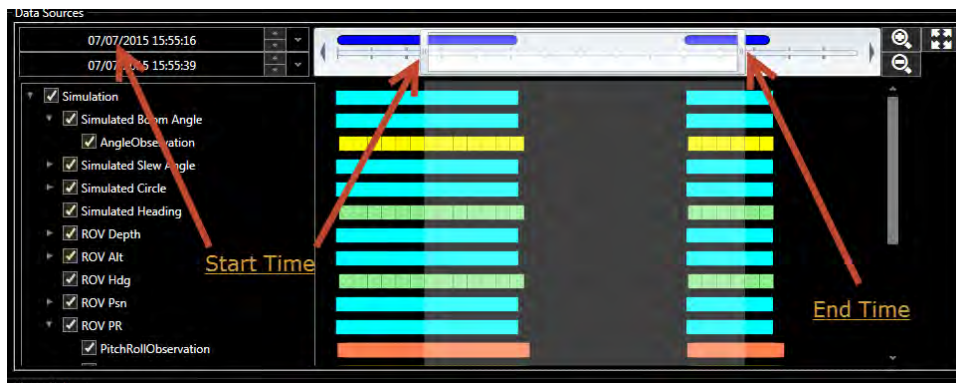

FIGURE 14-18 DATA TIMELINE
- **Data Timeline:** Select the time frame to query data for using the timeline (see Figure 14-18).